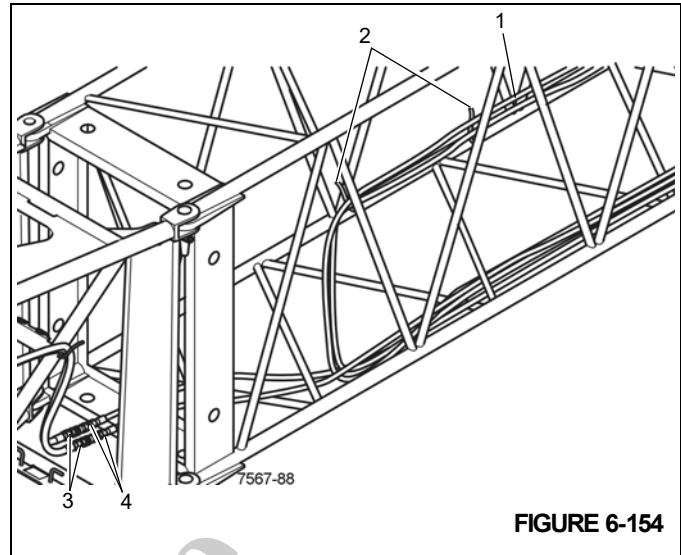
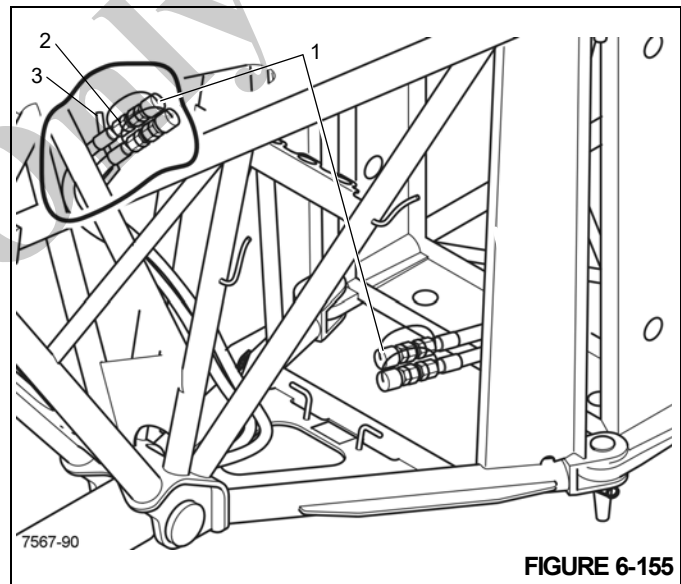

FIGURE 6-154
FIGURE 6-155
1. Remove the long hose (1), (Figure 6-154) from the holders (2), (Figure 6-154) on the insert.
3. Remove the protective caps and connect the folding extensions hoses (3), (Figure 6-154) to the long hose ends (4), (Figure 6-154).
4. Secure the hoses (1), (Figure 6-154) to the holders (2), (Figure 6-154) to make sure that the hoses are not damaged during operation.
1. Disconnect the hoses (3), (Figure 6-155) from the long hose ends (4), (Figure 6-154).
2. Install protective caps (1), (Figure 6-155) on the hose ends.
3. Secure the hoses (2), (Figure 6-155) to the holder (3), (Figure 6-155) in the 35 ft (10.5 m) section.
4. Stow the long hoses (1), (Figure 6-155) on the holders (2), (Figure 6-155) provided.